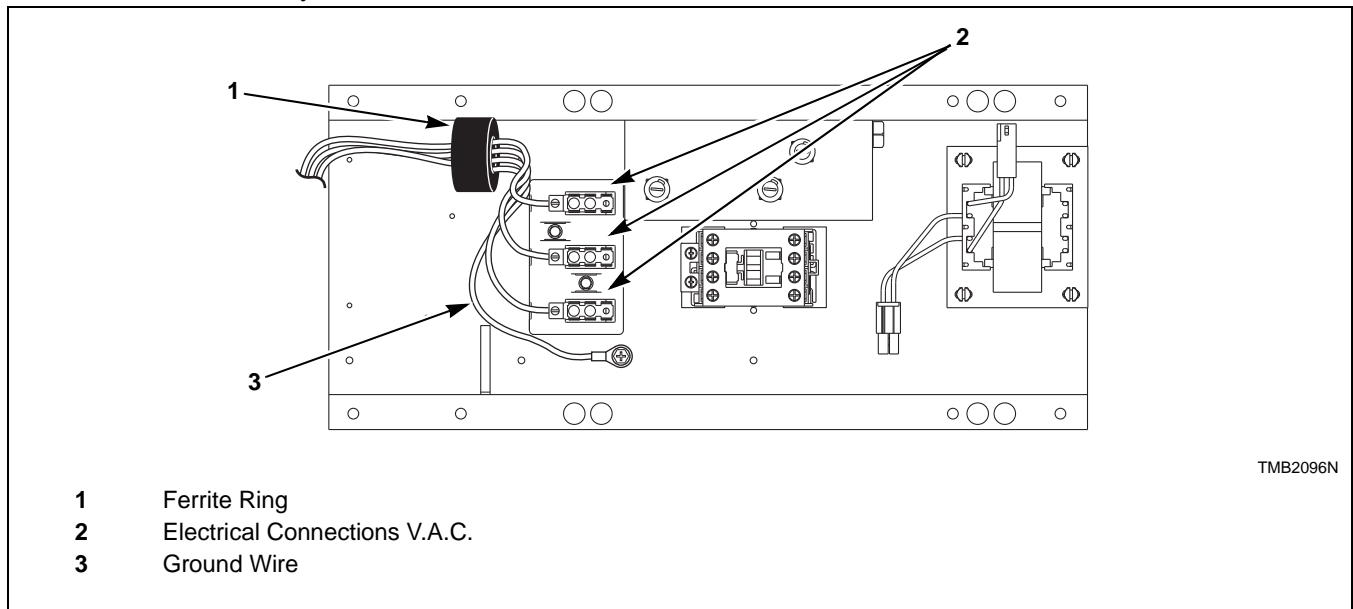

Figure 26
2. Snap the ferrite ring closed over all the service leads inside of the contactor box as shown. It is important that the ferrite ring be installed inside the contactor box. Refer to *Figure 26*. Do not install the ferrite outside of the box or other area. Make sure that service leads are in the center of the ferrite before closing the ring so as not to pinch or damage leads.